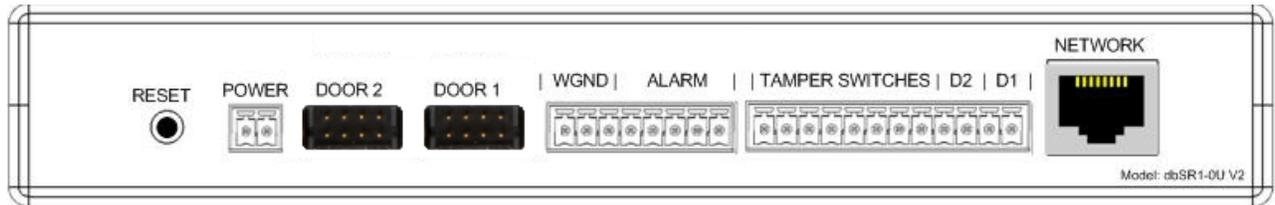

Figure 4
- Use the supplied CAT5 cable to connect the Control Unit to a Network. Connect the CAT5 cable to the port labeled "NETWORK" on the back of the Control Unit as shown in Figure 4.